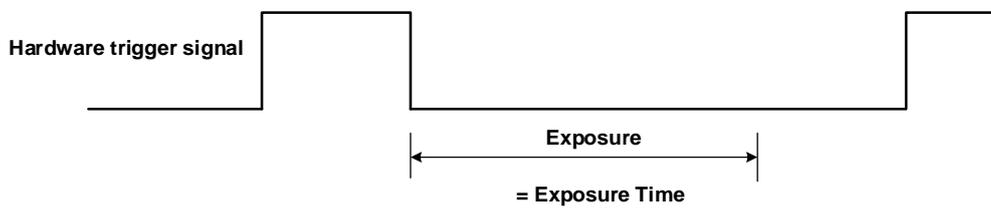

Figure 8-22 The sequence diagram in falling edge trigger of Timed exposure mode
- If falling edge triggering is enabled, exposure starts when the trigger signal falls and continues until the exposure time has expired, as shown in Figure 8-22